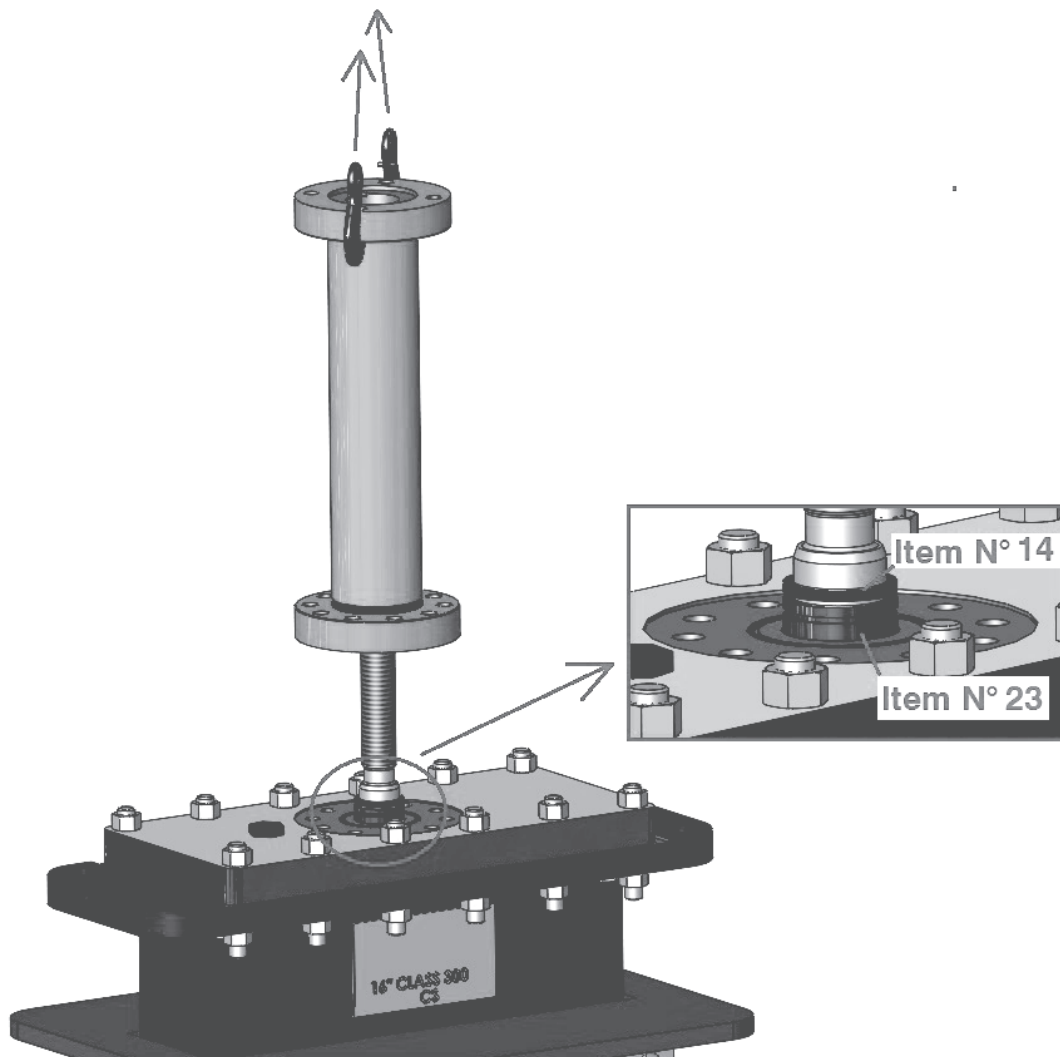

Figure 9 - Yoke disassembly and stem fire safe gasket and bearing removal.
9. Hook the yoke operator flange as shown in the following Figure 9, lift and remove the yoke from the valve bonnet. Stem fire safe gasket and stem bearing can be now disassembled